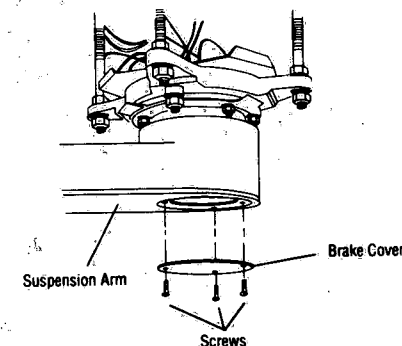

Figure 3-3. Remove Brake Cover
2. Remove three screws from brake cover, on bottom of suspension arm (see Figure 3-3). Lower brake cover from suspension arm and set aside.
- Remove three screws from cover, on bottom of suspension arm (see Figure 3-3). Lower cover from suspension arm and set aside.